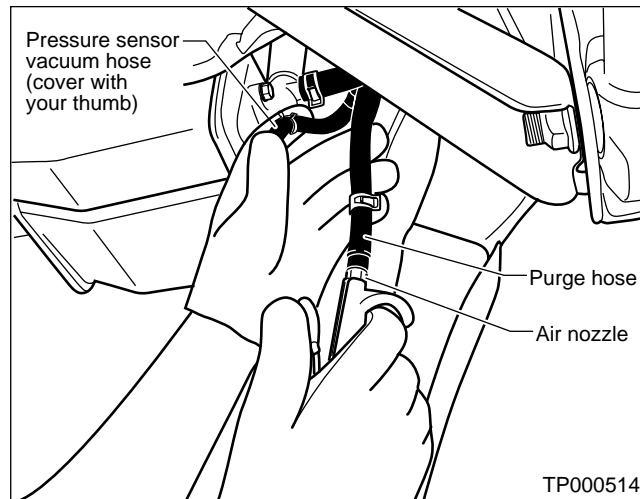

Figure 6
- B. Cover the EVAP System Pressure Sensor hose with your finger, then blow air through the Purge hose/EVAP system piping to remove charcoal particles (see Figure 6).